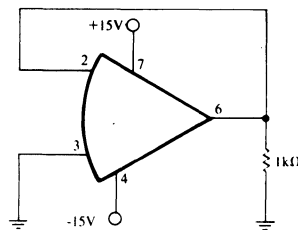

FIGURE 3 Test Circuit, Burn-in and Operating Life Test.
- (1) Test condition B
- (2) Test circuit is Figure 3 herein
- (3) $T_A = +125^\circ\text{C}$ minimum
- (4) Test duration is 160 hours minimum
- (3) $T_A = 125^\circ\text{C}$ minimum
- (4) Test duration is 1000 hours minimum